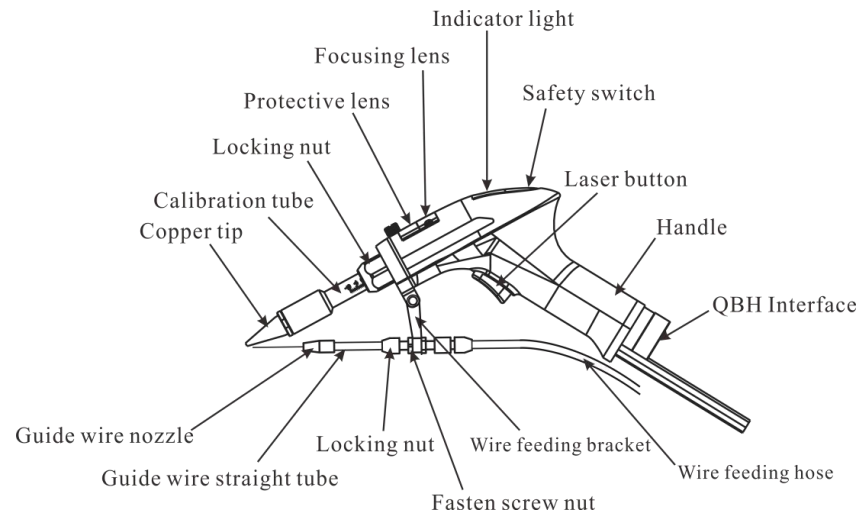

Figure 2-1 Installation diagram of welding torch
5. Tighten the wire nozzle and the straight tube of guide wire, string the lock nut and the straight tube of wire guide into the end of wire outlet, tighten the nut with a wrench until the straight pipe of the guide wire does not shake. As shown in Figure 2-1.